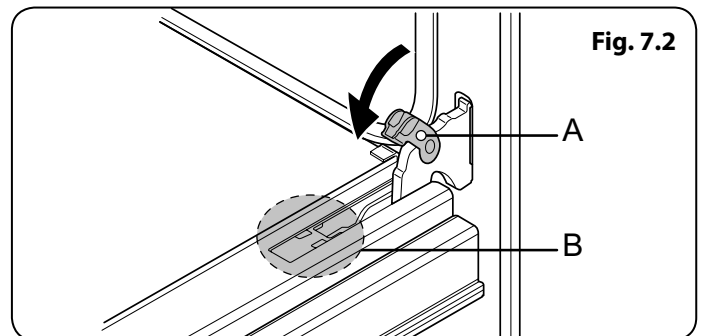

Fig. 7.2
2. Gently close and align the the left and right hinge levers "A" are hooked to part "B" of the door (**Fig. 7.2**).